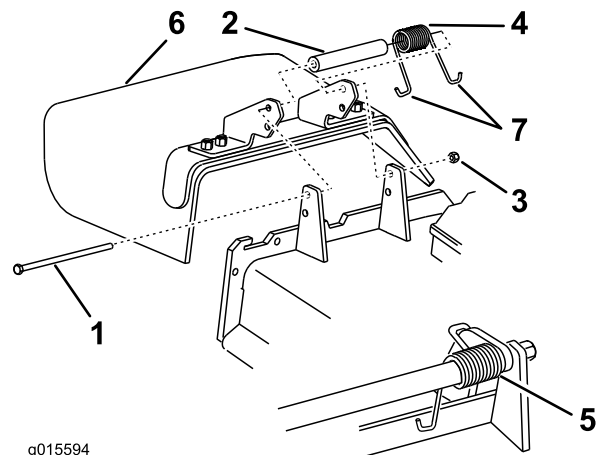

Figure 102
Note: Make sure one J end of the spring is installed behind the deck edge before installing the bolt as shown in Figure 102.
6. Place one J hook end of the spring around the grass deflector (Figure 102).